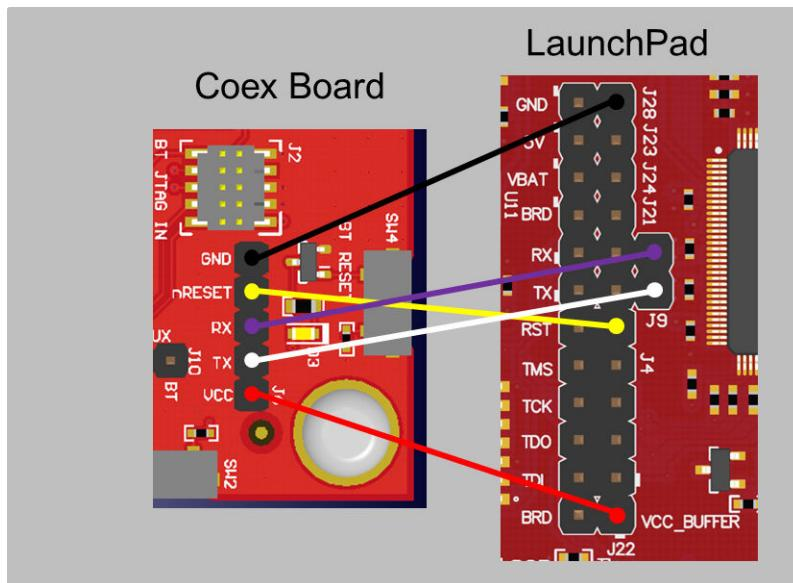

Figure 2-2. Programming and UART Communication – Wiring Diagram
2. Connect the 5-pin jumper cable to the boards as shown in Figure 2-2.